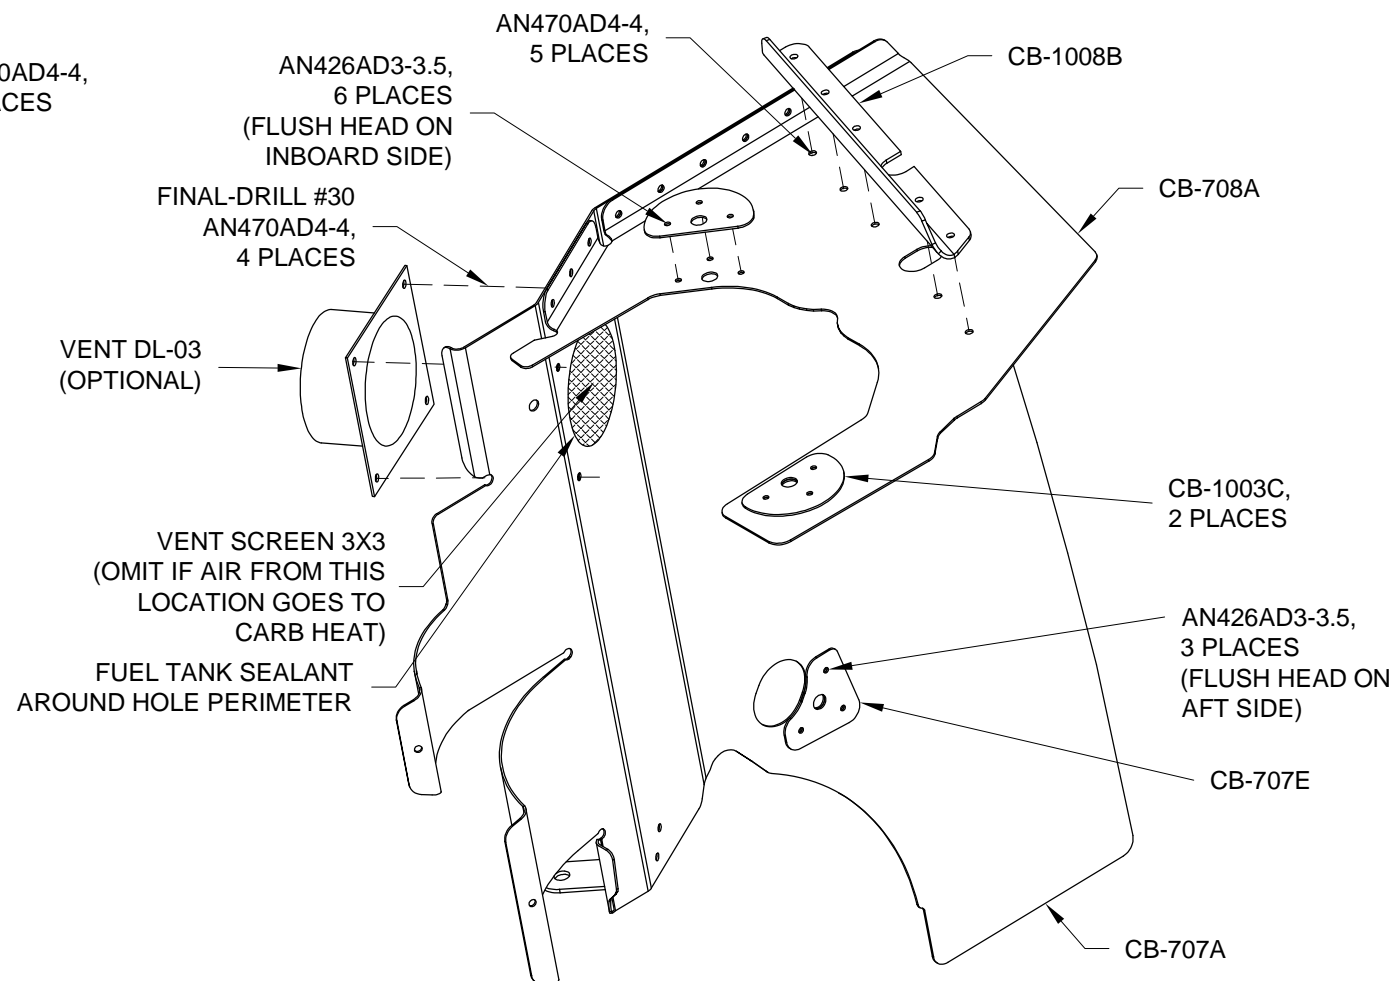

FIGURE 2: RIVETING THE CYLINDER 3 BAFFLE ASSEMBLY
Step 10: (Optional) Apply a bead of fuel tank sealant around the vent hole then rivet the VENT DL-03 Scat Tube Flange and VENT SCREEN 3X3 (screen is optional, see warning above) to the CB-707A Right Aft Case Baffle as shown in Figure 2.